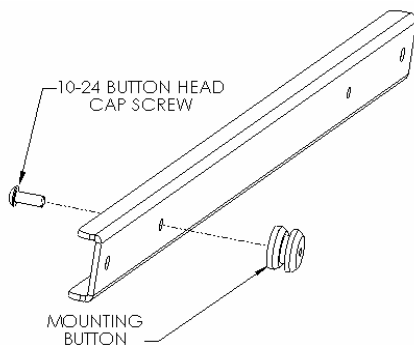
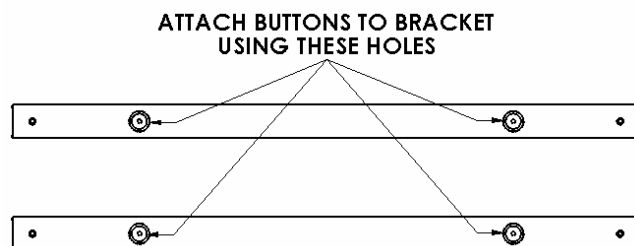

Figure 2
Figure 3
1. Using a 10-24 button head cap screw inserted from back side of bracket, secure mounting button, with chamfered hole of mounting screw (larger surface) facing bracket, to top and bottom brackets (four places) (see Figure 2 & Figure 3).